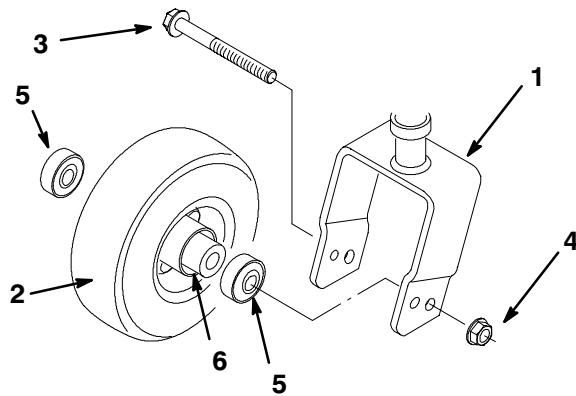

Figure 23
3. Remove locknut and capscrew that secure the castor wheel assembly in the castor fork (Fig. 23).
4. Remove the castor wheel from the fork (Fig. 23).
5. Remove the outer bearing from wheel hub and allow the bearing spacer to fall out (Fig. 23).
6. Remove the other outer bearing (Fig. 23).